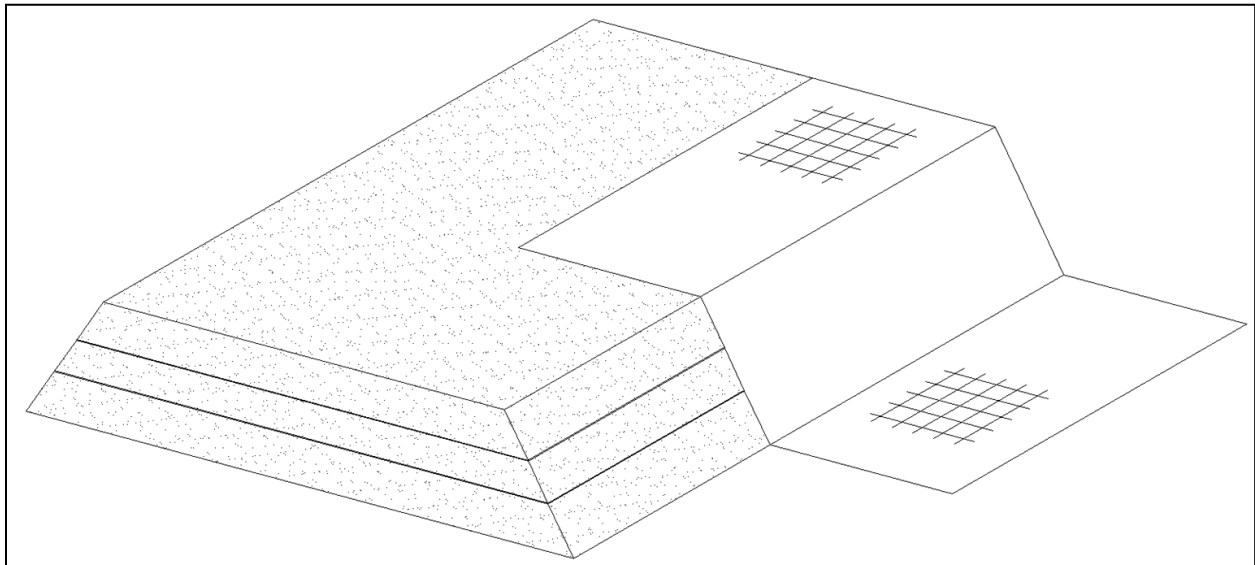

Figure 5
- The slope face should be vegetated with an appropriate rolled erosion control product (RECP), in accordance with the Design Engineer, to properly mitigate soil erosion. (Figure 5)
- Please Contact Engineering Services at (423)553-2450 for additional technical support regarding this Installation Guide or for suggestions on mitigating soil erosion through the use of Landlok[®] RECP.